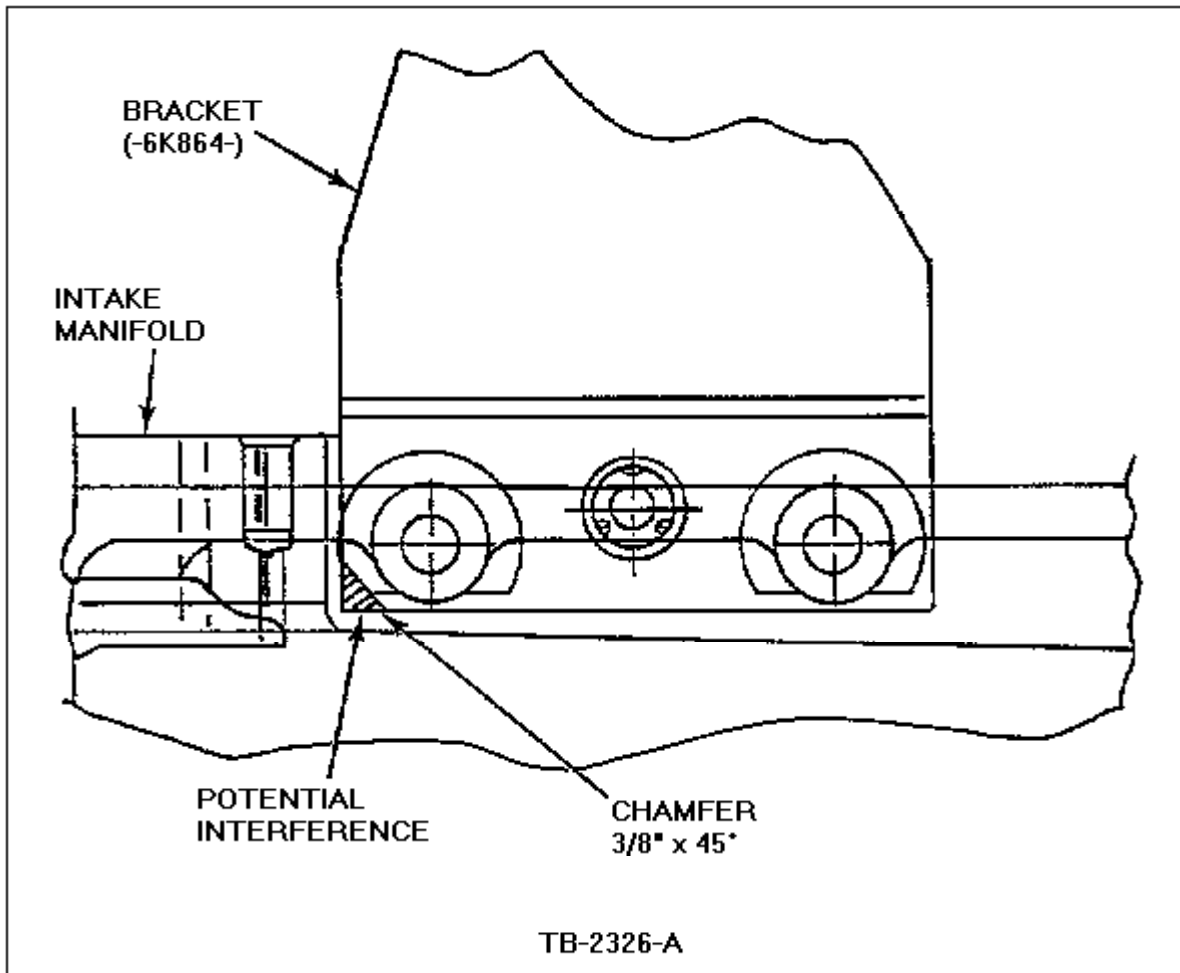

Figure 1 - Article 91-20-21
2. If this minimum clearance is not evident and the bracket is reusable, rework it as shown in Figure 1.